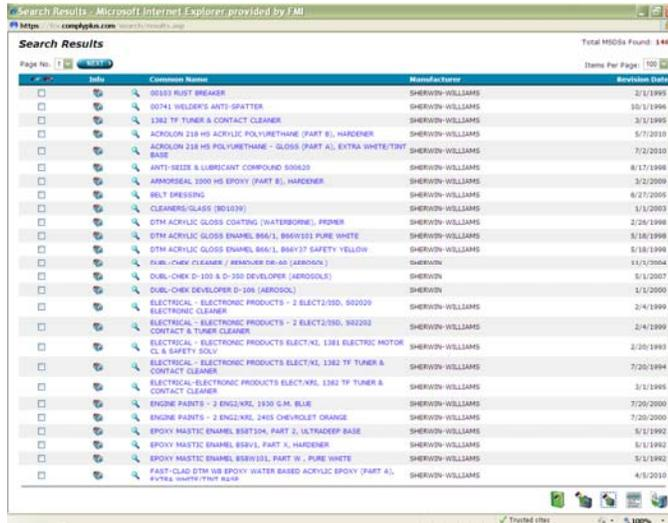

Figure 3
- A Search Results box will pop up on the screen with all documents that coincide with your search criteria. Click on the Name of the product to open the file. (see Figure 3)